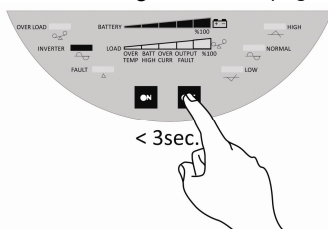
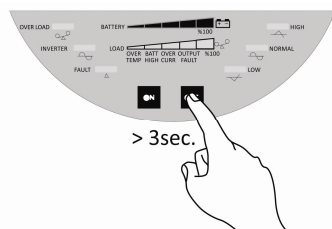

Figure 3.14
Figure 3.15
2. **If UPS is in Battery Operation Mode:** Turn off your loads safely. Briefly press **OFF** button and observe that **INVERTER** LED turns off (Figure 3.14). Press and hold **OFF** button until audible warning silences and observe that battery indicator LED lights turn off (Figure 3.15).